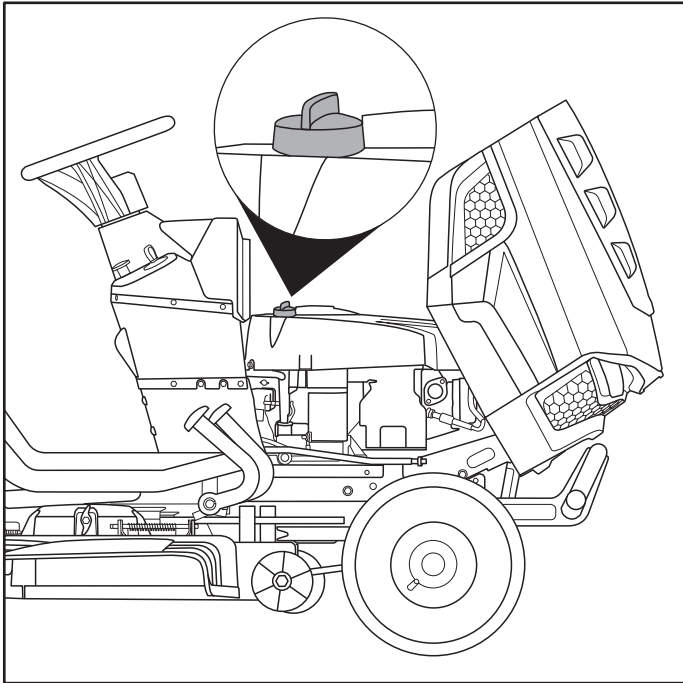

Fig. 11
2. Remove the dipstick (Fig. 11). Remove the remaining oil from the dipstick.